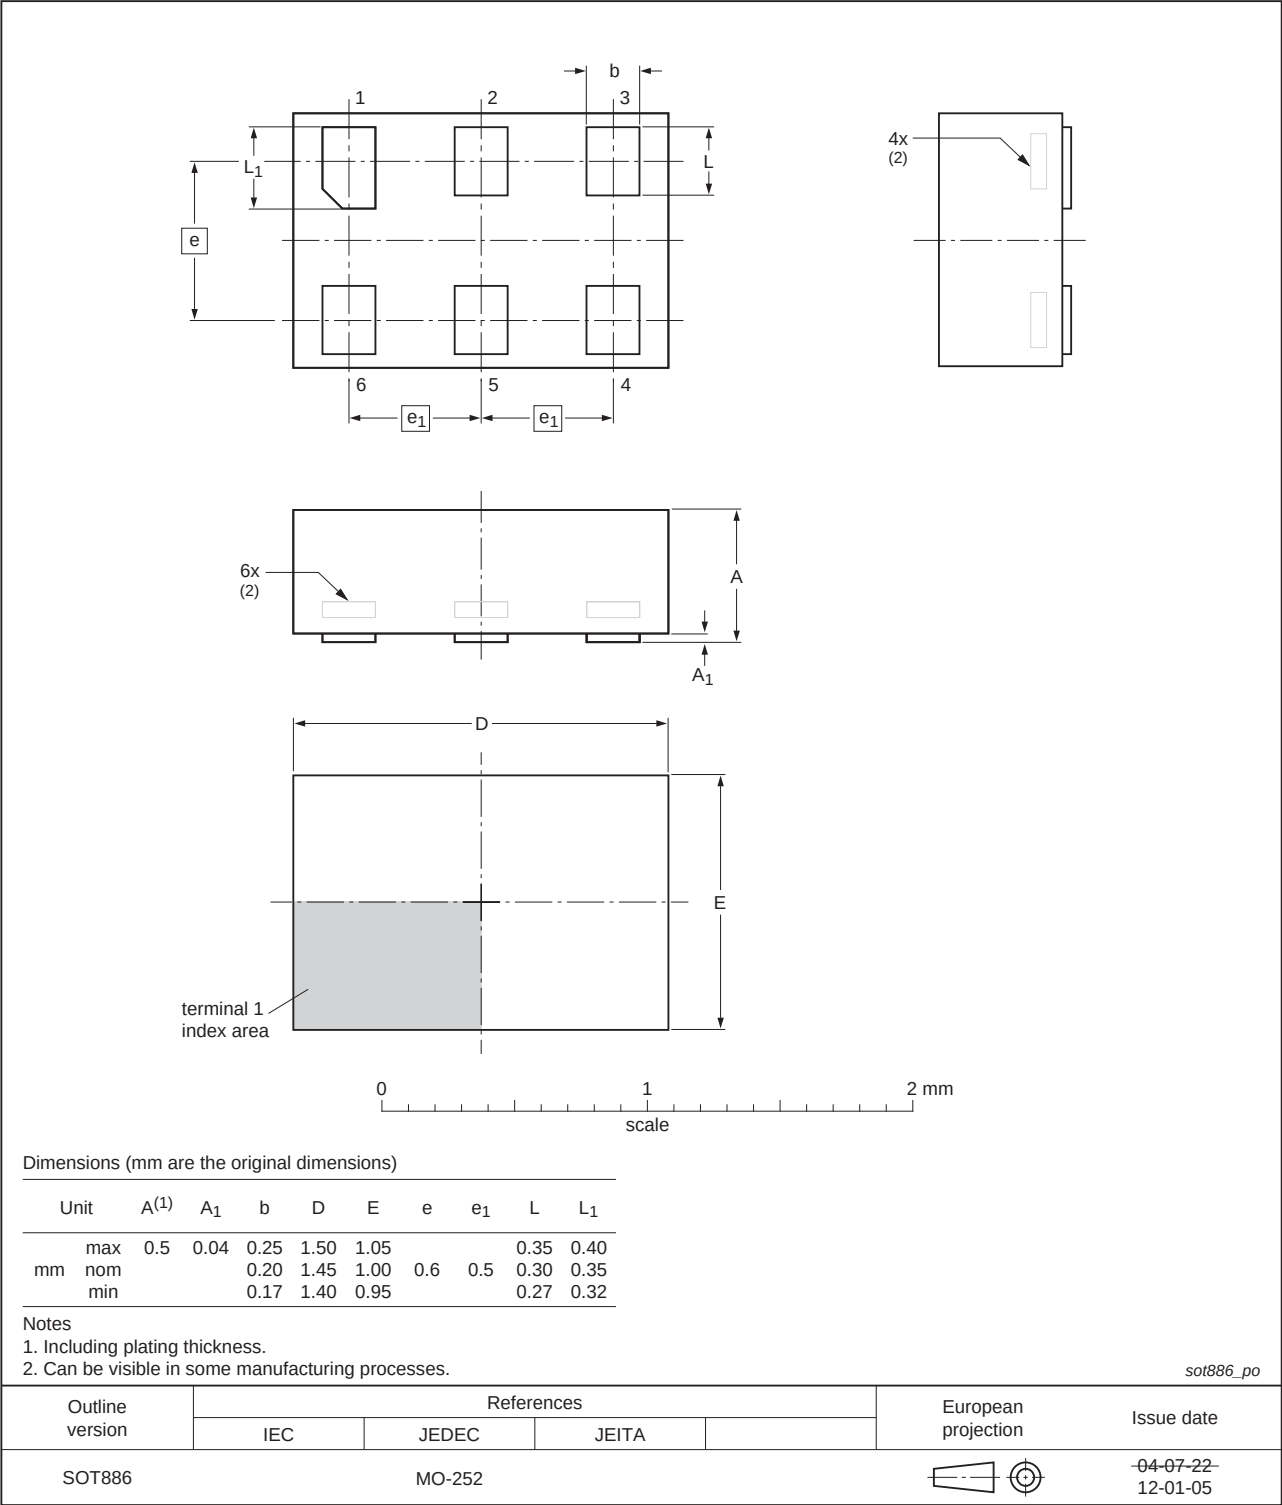

Fig 11. Package outline SOT886 (XSON6)
• Package outline drawing of SOT886 (Figure 11) modified.